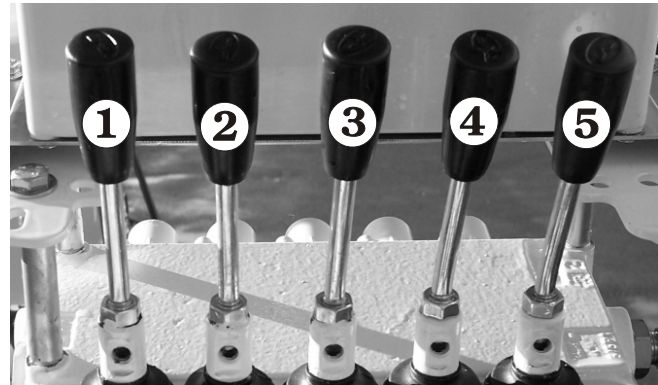

Figure 8.5 - Upper Controls - Platform Movement Control Valve levers - Steel Basket
8. **Platform Movement Levers:** Items 1 through 5 (see Figure 8.5) are the platform moving control levers.